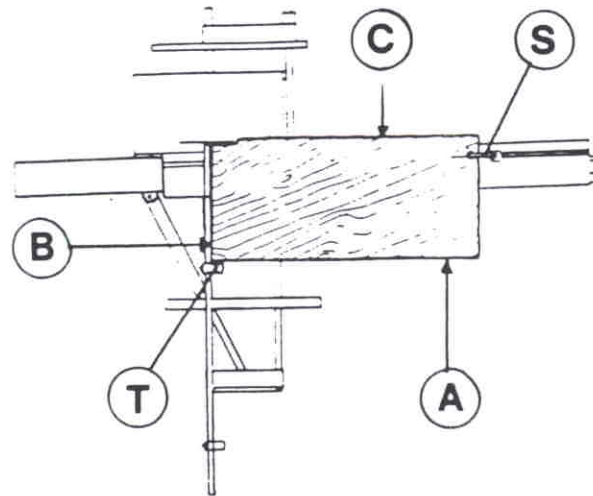

Fig.43
- Turn panel 90° and rest side (B fig. 43) you have now trimmed against the aluminium fence and side (A) against stop (T) positioned according to cutting measure, then carry out cut (C)